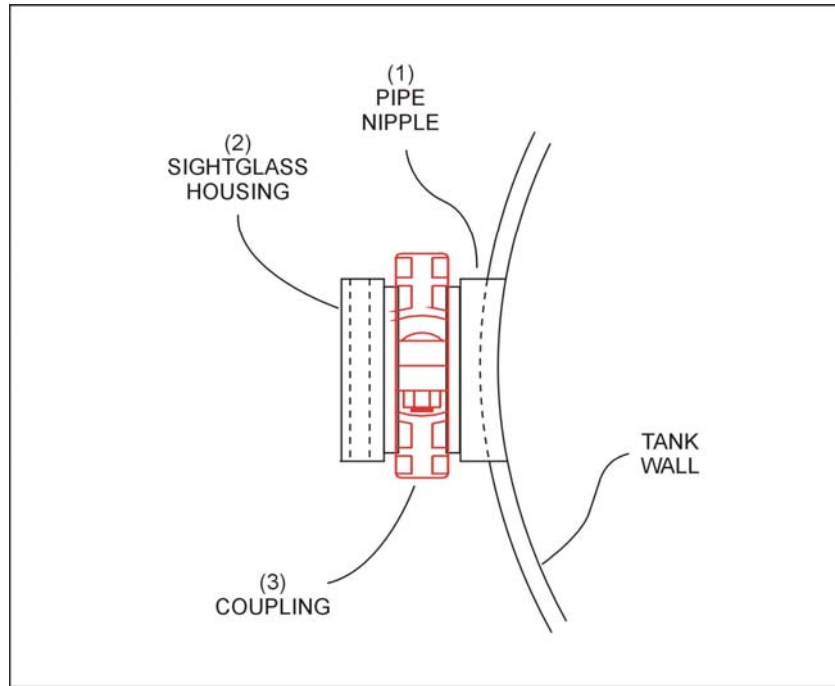

FIGURE 6
The following instructions are to help facilitate the installation of Vortex Venture's sightglass in the shell section and cone sections of surge tanks. There are three parts to the sightglass, (1) Pipe Nipple, which is the piece that will be welded into the surge tank wall (2) Sightglass housing, which is the piece that holds the viewing disk (3) Coupling, which connects the nipple and housing. See also figure 6.